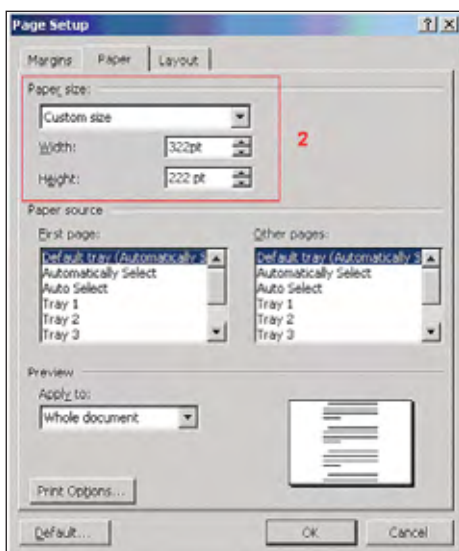
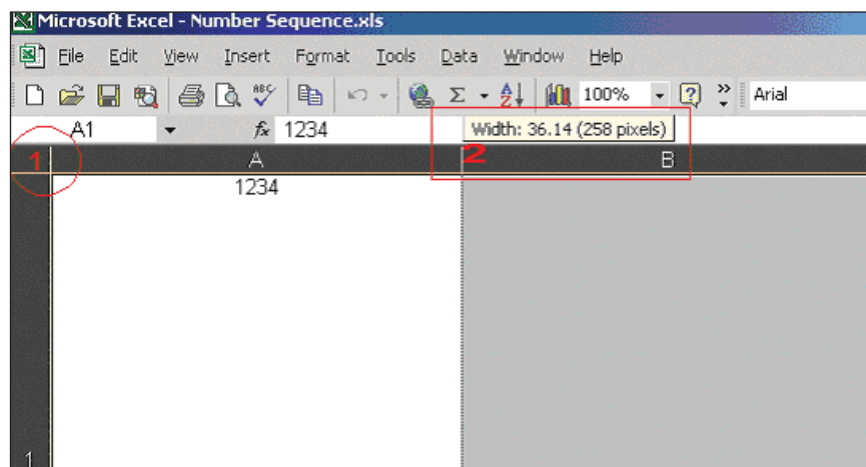

Fig. 2
Fig. 3
3. Next go to **File >>> Page Setup** and click on the **Paper** tab. If you started from a supplied template, make note of the width and height of the page as you will need to use these values to set the cell size in the Excel template. See **Fig. 2**. If you're starting from scratch, set the width and height to the desired size of the label.
3. Next, left-click and hold the column line between A and B. See Fig. 2. You can see a small box pops up giving you the pixel size of the width. You will want to set that value to the same width as your label. Do the same for the row height. See Fig. 3.